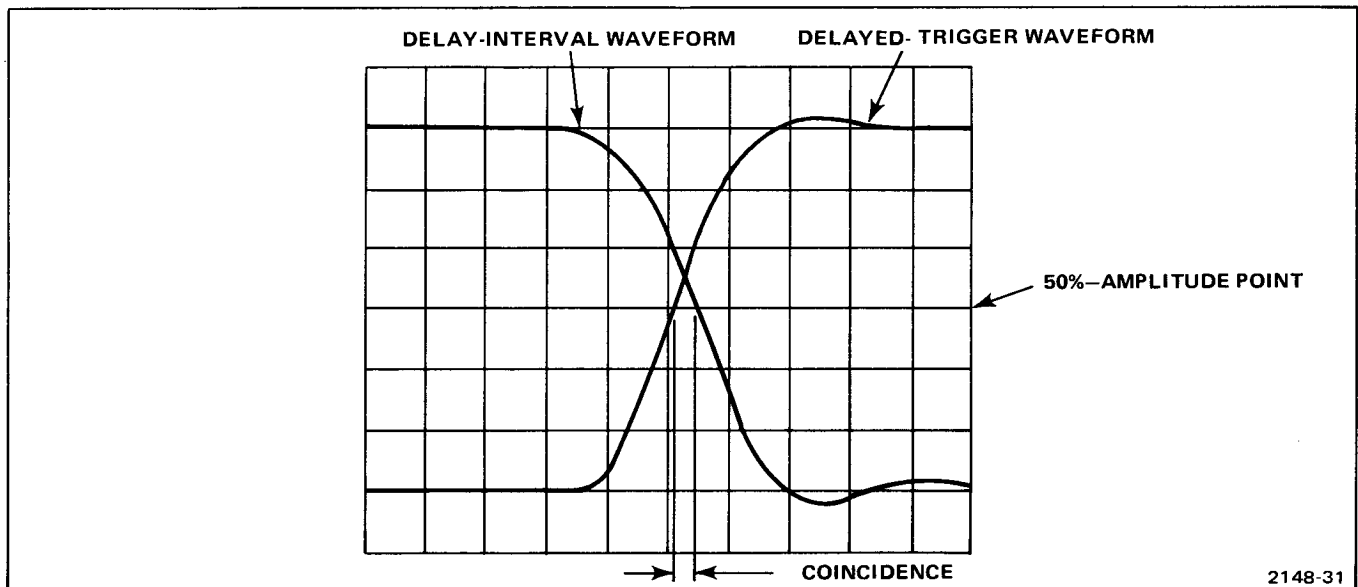

Figure 5-2. Simulated waveforms for checking Delay Interval and Delayed Trigger Coincidence.
- g. CHECK—Display for not more than 1 division between the rising portion of the Delayed Trigger waveform and the falling portion of the Delay Interval waveform, as measured at the 50% amplitude points (rising edge of Delayed Trigger waveform is coincident with the falling edge of the Delay Interval waveform within 2 nanoseconds). See Figure 5-2.